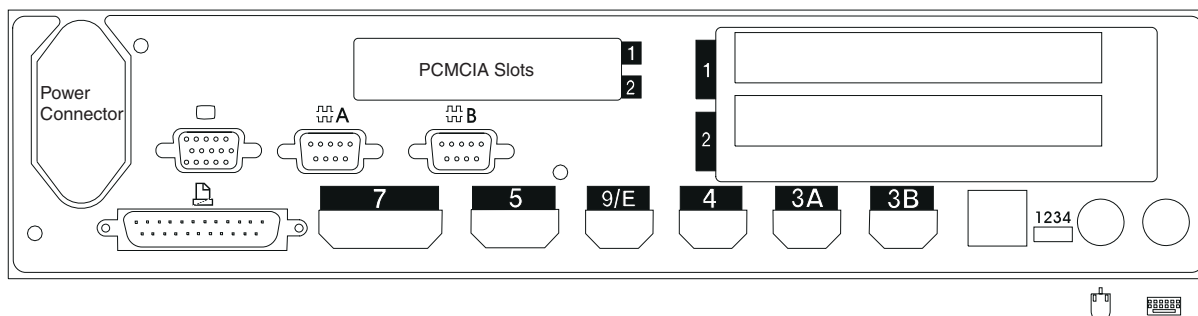

Figure 102. Rear of 4694-1x4/205 Controller/Terminal
8. Mark an X on Figure 102 to indicate the sockets in which POS devices are connected.